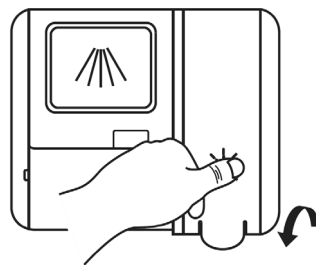

Fig. 5
4. After filling close the rinse aid dispenser cover and tighten it (Fig..5)..